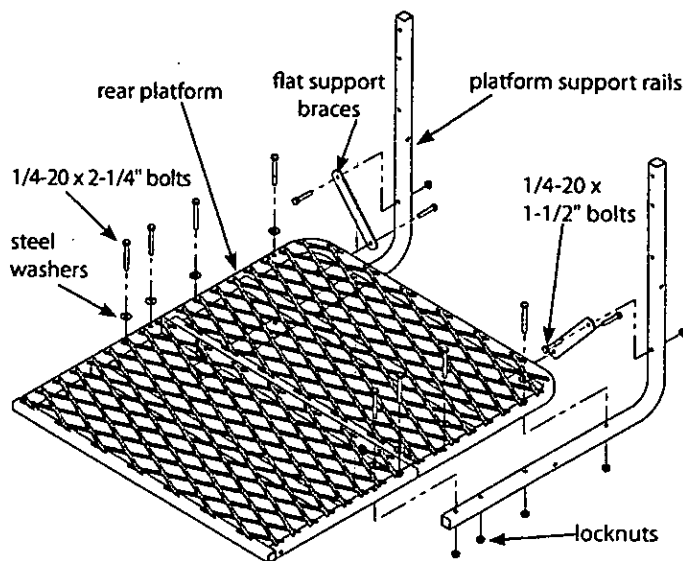

Figure 2
2. Attach the platform support rails (410055) to the bottom of assembled foot platforms using (8) provided 1/4-20 x 2-1/4" bolts, locknuts and steel washers. SEE FIGURE 2.
3. Attach the platform flat bars (1ML40) to the rear platform and platform support rails using (4) provided 1/4-20 x 1-1/2" bolts and locknuts. SEE FIGURE 2.